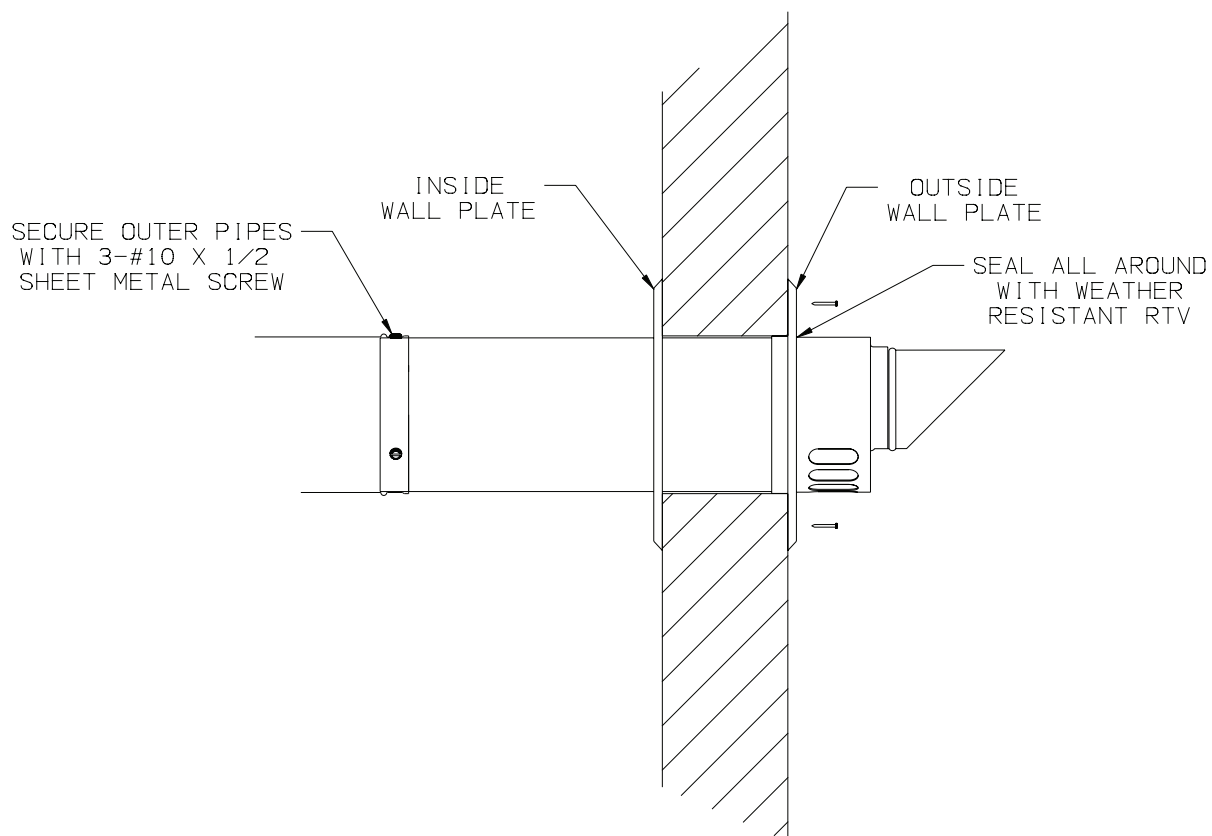

FIGURE 7.33d: COMPLETING 80/125mm HORIZONTAL TERMINAL INSTALLATION
- h) Slip the terminal section through the wall from the outside. Pass the terminal through the inner wall plate and push into the last section of vent pipe until the mark made in Step (h) is not longer visible (Figure 7.33d). Secure the terminal to the last piece of pipe with three #10 x 1/2" sheet metal screws. Drill a 1/8" hole through both outer pipes to start these screws. **Use a drill stop or other means to ensure that the drill bit does not penetrate more than 3/8" into the outer pipe. Do not use a sheet metal screw longer than 1/2".**
- i) Slip the outer wall plate over the terminal and secure to the wall (Figure 7.33d). Apply a 1/8" bead of weather resistant RTV over the joint between the outside wall plate and the terminal. Secure the other wall plate to the inside wall.